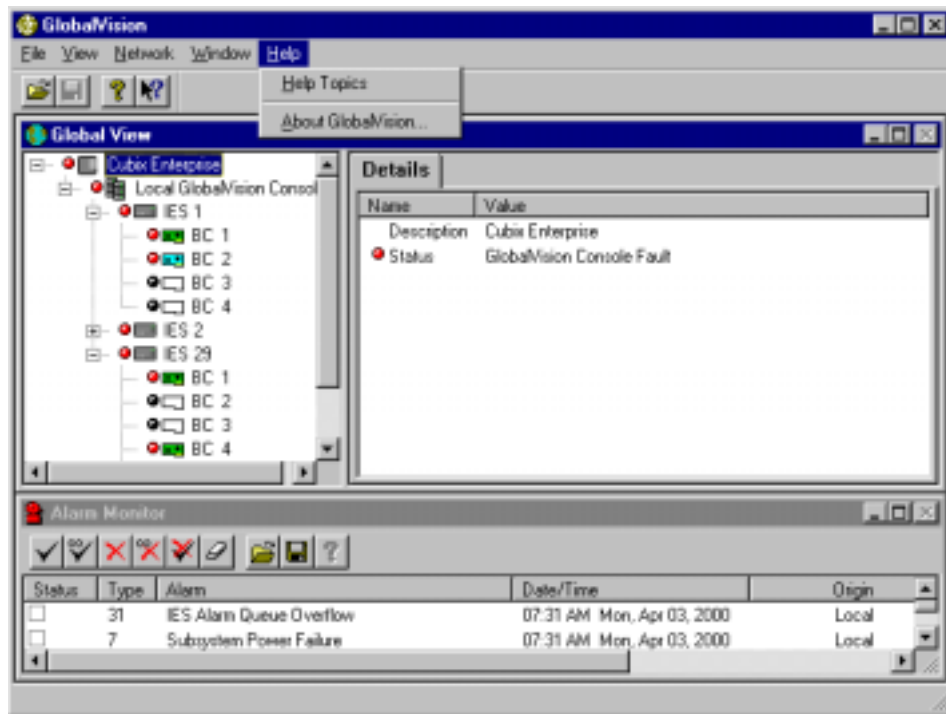

Figure 91 - Global View Menu System - Help menu heading
The fifth and final menu heading of the GLOBAL VIEW MENU SYSTEM is **Help**. **Help** is used to access the on-line HELP SYSTEM and the ABOUT GLOBALVISION window. **Help** has two menu items: **Help Topics** and **About GlobalVision**. See Figure 91 .
- **About GlobalVision**      Used to access the ABOUT GLOBALVISION window, which has the Version Number and Copyright Date. See Figure 91.